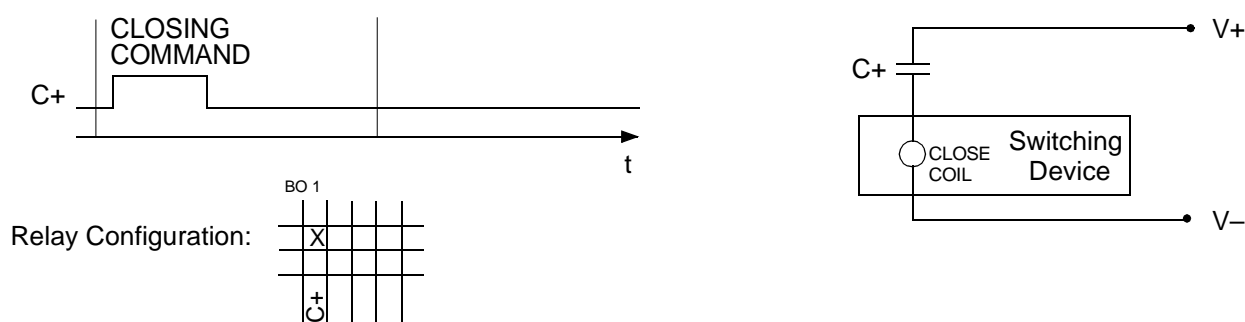

Figure 5-4 Single Command with Single Output
- For each device to be controlled, determine if switching is to be done with 1 contact, 1½ contacts (single contact and common), or 2 contacts; with a single or double command; and with or without feedback signals. See Table 5-1 and Figures 5-4 to 5-9. The information to be processed and the command type are determined with these decisions.
- The TRIP (OFF)–command is always configured prior to the associated CLOSE (ON)–command;
Table 5-1 shows the most important command types. They are made available as options in the Configuration Matrix for the SIPROTEC® device (see also “Binary Outputs for Switching Devices” in Sub-section 5.2.4). All double commands, with and without feedback indications, are also available as transformer step commands. The following Figures 5-4 through 5-9 show time diagrams, control settings, and the sequence of relay positioning in the configuration matrix for frequently used command types.
For Figures 5-4 through 5-9, the following abbreviations apply: